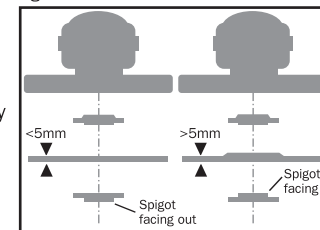

Fig. 5
4. Position the flange nut depending on the thickness of the disc (See fig. 5) over the spindle and disc and hand-tighten.